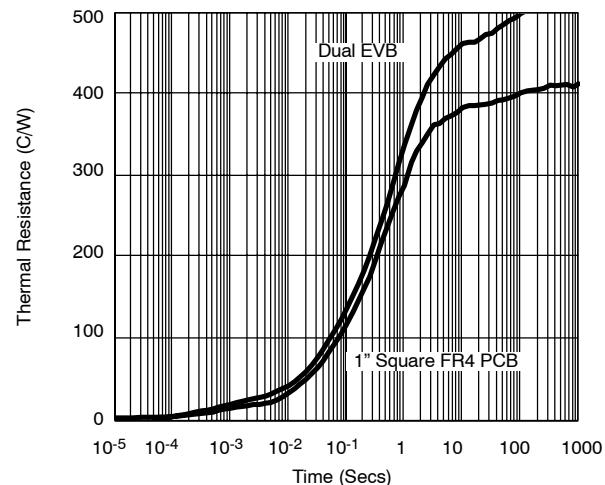

FIGURE 2. Comparison of Dual SC70-6 on EVB and 1" Square FR4 PCB.
To aid comparison further, Figure 2 illustrates the dual-channel SC-70 thermal performance on two different board sizes and two different pad patterns. The results display the thermal performance out to steady state. The measured steady state values of $R\theta_{JA}$ for the dual 6-pin SC-70 are as follows:
1) Minimum recommended pad pattern (see Figure 2) on the EVB of 0.5 inches x 0.6 inches.	518°C/W